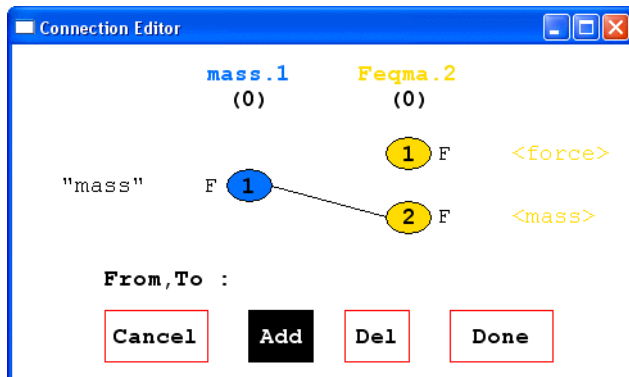

Figure 4-22. Adding a Connection with the Connection Editor
3. Verify that the **Add** button is highlighted. With **MB1**, click output **1** (left column), and click input **2** (right column). A line is drawn to indicate the connection as shown in Figure 4-22.